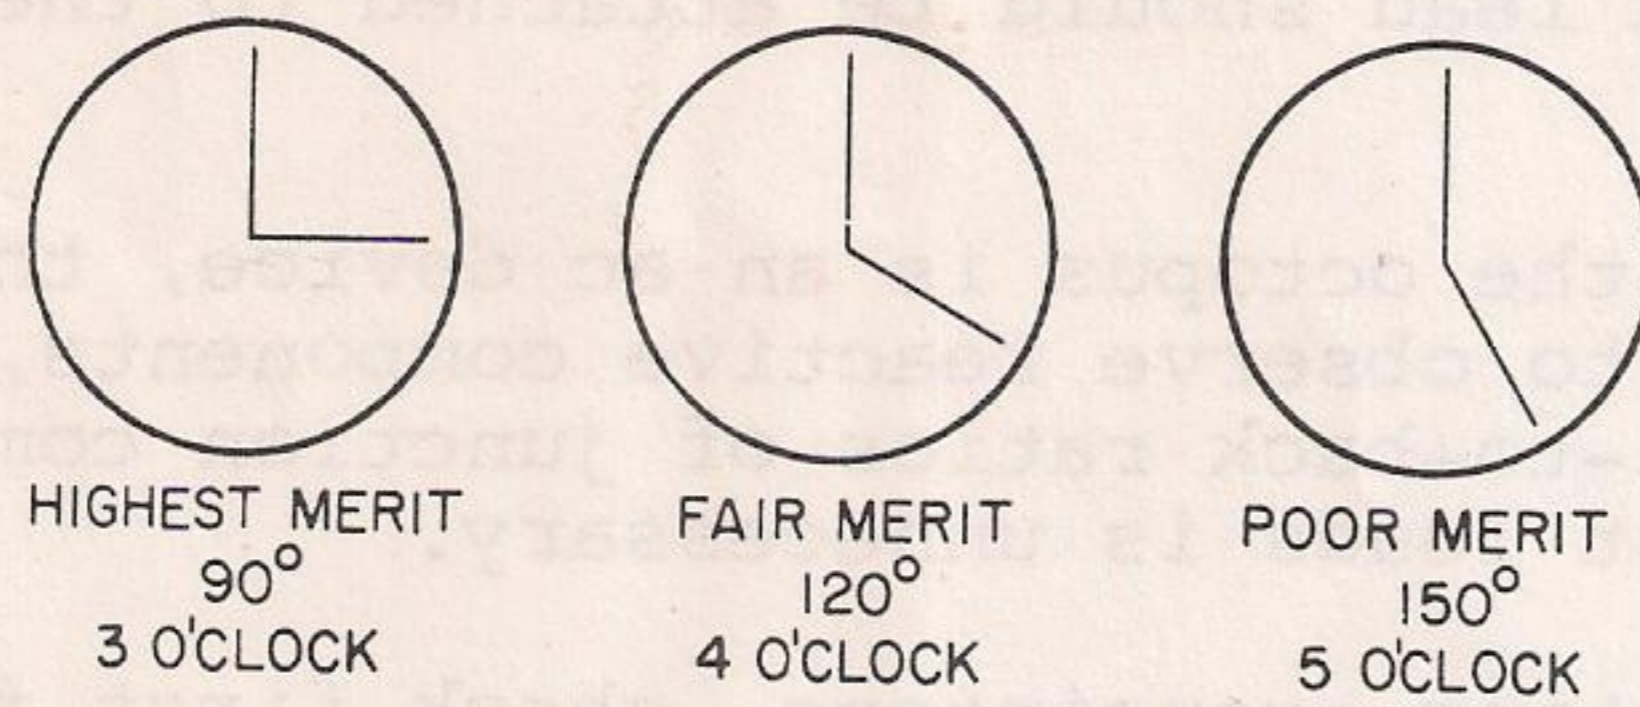

Figure 5. Transistor Check-Single Junction
d. Transistor/Diode Check-Single Junction. (See figure 5.) An ideal single-junction check will produce a 90-degree step display, indicating a very high front-to-back ratio. This means an open in the reverse direction and a short in